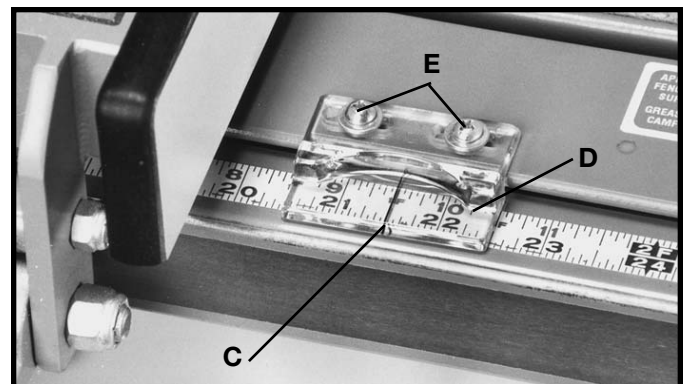

Fig. 101
3. The distance the fence is positioned away from the blade is indicated by the witness line (C) Fig. 101, located on the cursor (D). If it is necessary to adjust the cursor (D), make a test cut with the fence locked in position. Measure the width of the finished cut and adjust the cursor (D) by loosening the two screws (E), adjusting the cursor (D) until the witness line (C) is aligned with the same marking on the scale as the finished cut. Then tighten the two screws (E).